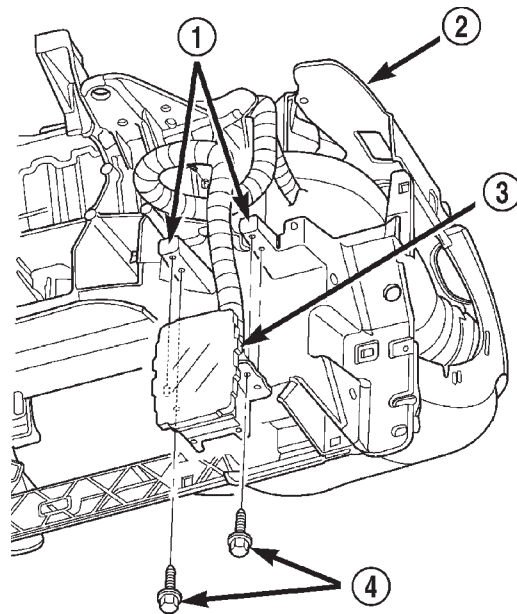

Fig. 16 I. P. Wire Harness Connector
(1) Before installing the instrument panel, be certain the (2) I. P. wire harness connector retaining screws have been removed. The wire bundle should hang between the two connector mounting tabs on the I. P. casting (Fig. 16).